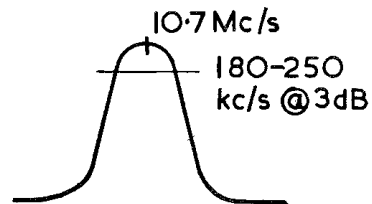

FIG. 6
6. Adjust L8 for curve to peak at 10.7 Mc/s as Fig.6. If any tilt is experienced in the overall response, this may be corrected by slight adjustment of L20.